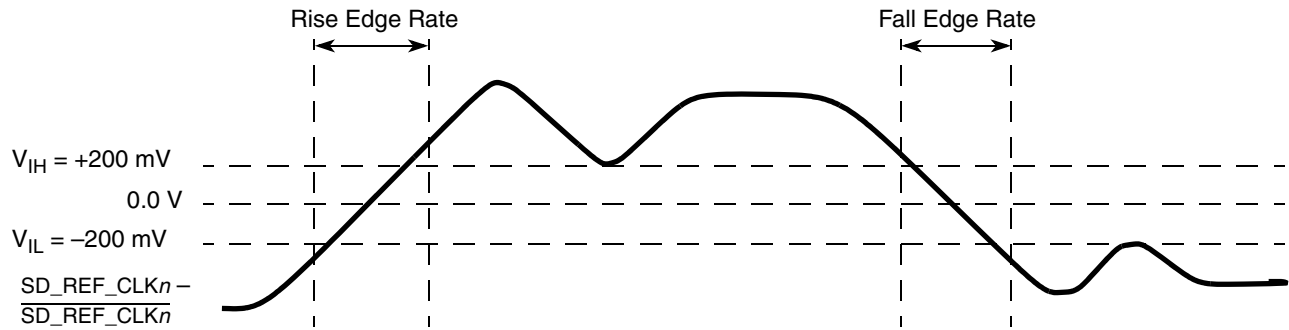

Figure 37. Differential Measurement Points for Rise and Fall Time
only one signal trace curve in a differential waveform. The voltage represented in the differential waveform is not referenced to ground. See Figure 37 as an example for differential waveform.
3. Measured from −200 mV to +200 mV on the differential waveform (derived from SD\_REF\_CLK $\bar{n}$  minus  $\overline{\text{SD\_REF\_CLK}}_n$ ). The signal must be monotonic through the measurement region for rise and fall time. The 400 mV measurement window is centered on the differential zero crossing. See Figure 37.